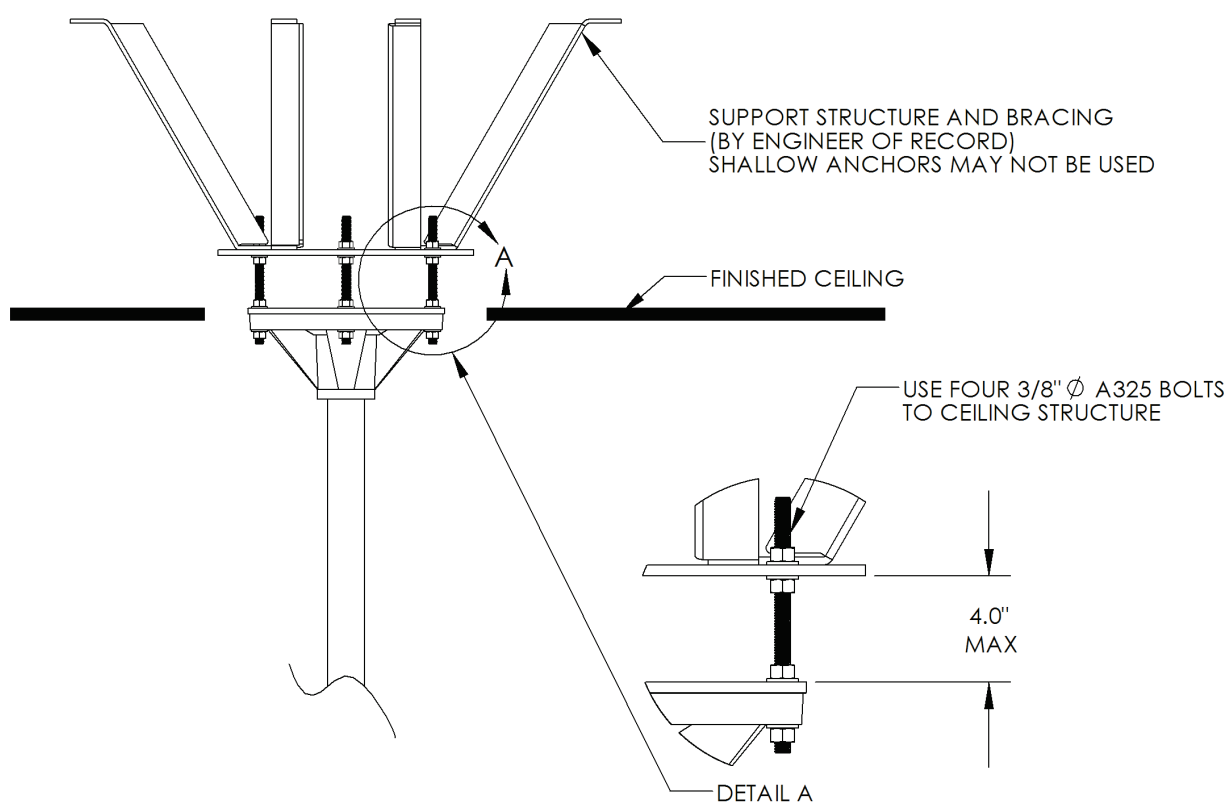

Figure 2: Recommended Ceiling Structure Construction
- Mount the Ceiling casting to the ceiling structure using four 3/8" diameter A325 bolts with nuts and washers as shown in Figure 2: Recommended Ceiling Structure Construction.
Because the ceiling structure is the owner's responsibility, the design and construction recommendation shown below (Figure 2: Recommended Ceiling Structure Construction) covers only one of the many possible alternatives that can be used. Medical Illumination highly recommends that the owner consult a structural engineer prior to designing and installing the ceiling structure.
Note: Ceiling rod must be plumb. Adjust the nuts/washers in Figure 2 accordingly.